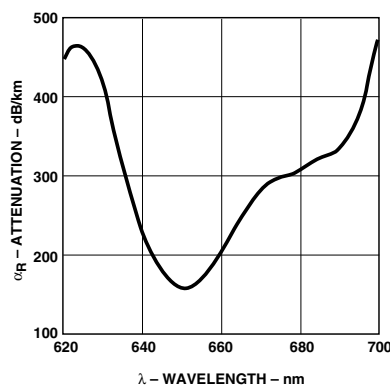

Figure 1. Typical POF attenuation vs. wavelength.
7. Note that α_R rises at the rate of about 0.0067 dB/°C, where the thermal rise refers to the LED temperature changes above 25°C . Please refer to Figure 1 which shows the typical plastic optical fiber attenuation versus wavelength at 25°C .